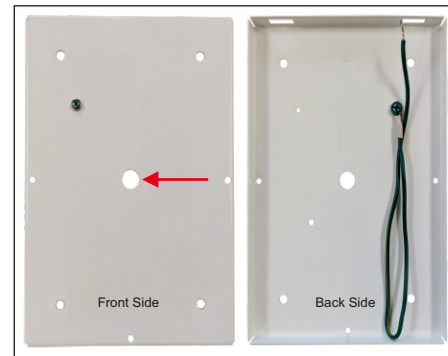

Figure 2
2. Remove the original lamp, lampholder and ballast (only for Fluorescent) from the luminaire. Drill a Ø0.43" (Ø11mm) hole in the center of the luminaire for input wires to go through. The original luminaire ground wire will need to be kept for this retrofit. See Figure 2.